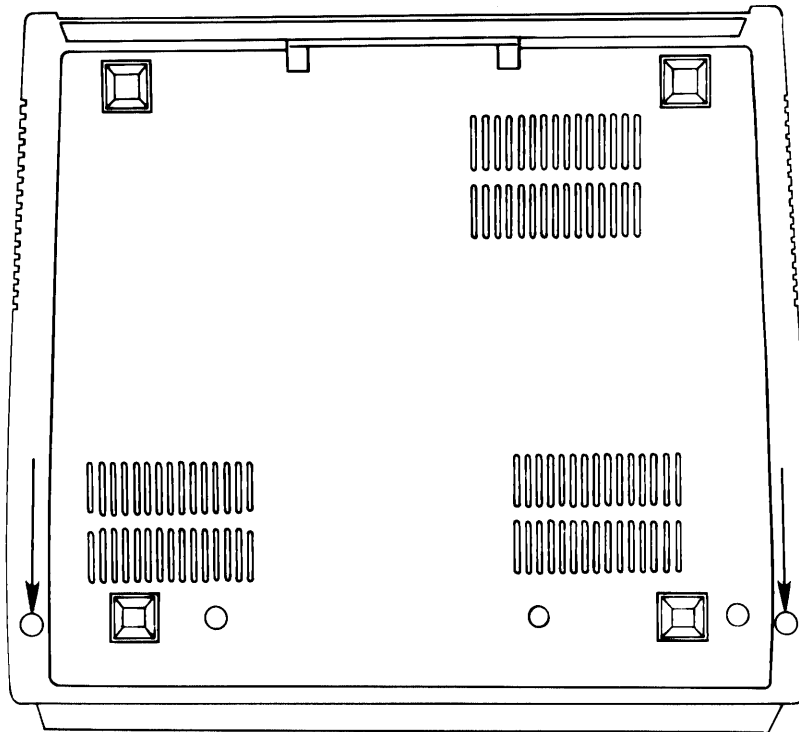

Figure 5-1: MDT 60 Cabinet Hood Screw Locations (Base of Unit)
2. Remove the two screws from the base of the unit as shown in Figure 5-1.